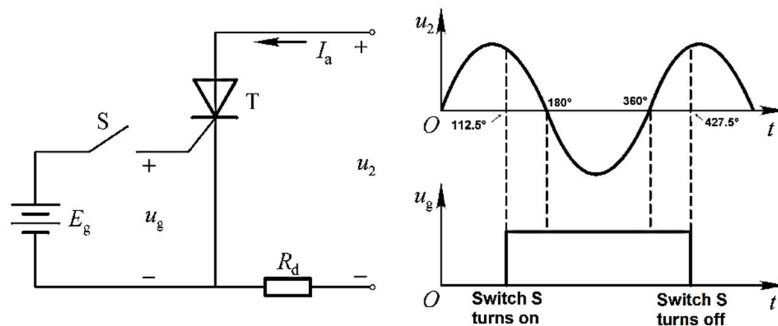

Figure Q1-d
- e. Consider the circuit in Figure Q1-e. Assume the power diodes D_1 and D_2 are ideal diodes, i.e., their forward voltage drop = 0 V. Determine the following when a 120 V rms sine voltage is applied to the primary winding of the transformer: